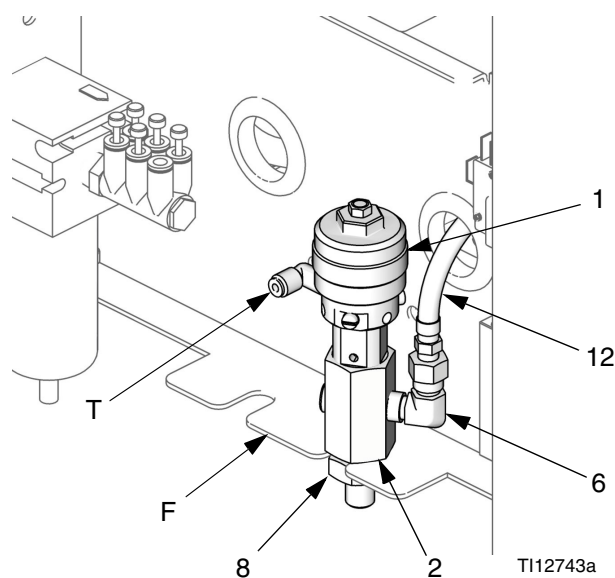

FIG. 1: 15V821 Kit Installation
1. Shut off the fluid supply to the dose valve (V) at the front of the wall panel.
4. See FIG. 1. Remove the plug from the dose valve adapter. Install the street elbow (18) in this port. Install the nipple (19) in the elbow.
5. Install the dump valve assembly (includes 1, 2, 4, and 11) in a slot of the flange (F) at the back of the wall panel. Secure with the nut (8).
6. Install the elbow (6) in the open port of the dump valve adapter (2). Connect a 1/4 npsm(f) hose (12) between the elbow (6) and nipple (19).